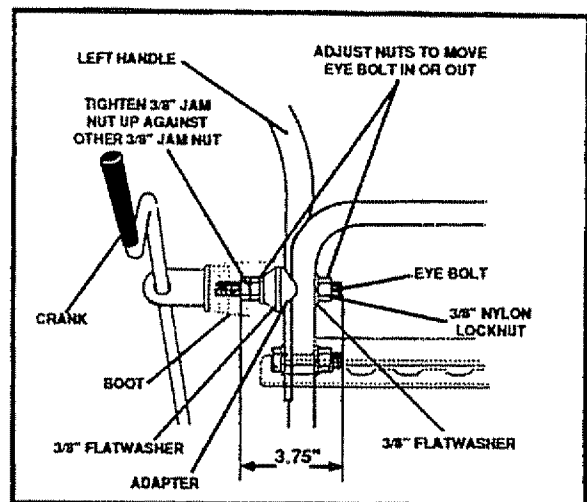

FIG. 4B
- Remove the 3/8" nylon locknut and flatwasher from the eye bolt assembly (on the chute crank assembly earlier). Check to make sure the two 3/8" jam nuts are tight. The jam nuts should be 3.75 inches from the end of the eye bolt (Fig. 4B).
- Install eye bolt through lower hole on the left hand side of the handle (See Fig. 4B).
- Install the 3/8" flatwasher and the 3/8" nylon locknut loosely on the eye bolt as shown in Fig. 4B.
- Make sure the outside 3/8" jam nut is up against the other 3/8" jam nut and slide the boot over the adapter (See Fig. 4B).